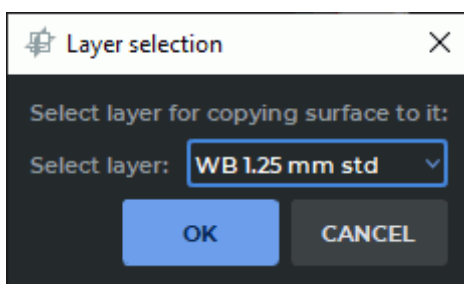

Figure 6.13: Layer selection dialog box
3. In the **Layer selection** (see Fig. 6.13), select from the drop-down list the layer where you want to place the surface copy.